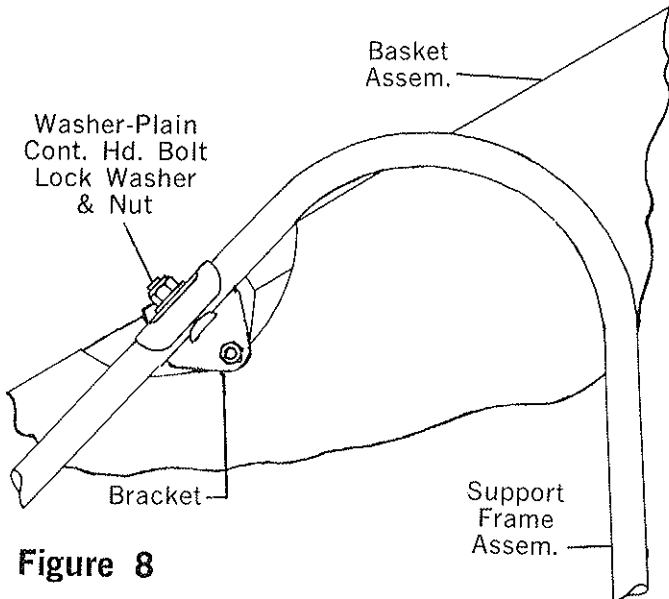

Figure 8
6. Fig. 8 & 13 - Position the Basket Assembly between the Support Frames. Use (2) Contour Hd. Bolts  $1/4$ -20 x  $1\frac{1}{2}$ , Washers, Internal Tooth Lock and Hex Plain Nuts. Put the Bolt down thru the Support Frame Tube and center the Bracket which is on the top of the Support Frame Tube, then tighten in place with the Bolt, Washer and Nut (both sides).